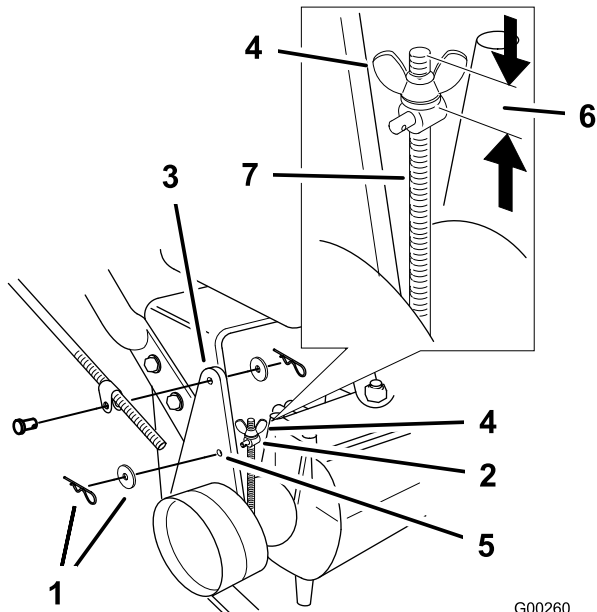

Figure 41
Note: For the initial adjustment, adjust the wing nut until it is 1-1/4 inches from the top of the rod (Figure 41).
5. To adjust the brake, remove the hair pin cotter and washer from the brake lever and trunnion (Figure 41).
8. Install the trunnion into hole F (Figure 41). Tighten the wing nut.
9. Secure trunnion to brake lever with washer and hair pin cotter (Figure 41).